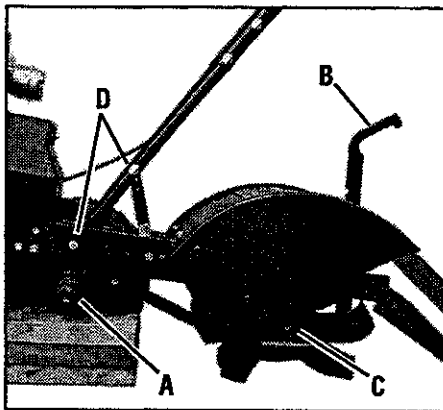

Figure 5-1
Proper lubrication of the tiller is an essential part of maintenance. After every 10 operating hours, oil or grease the lubrication points shown in Figures 5-1 and 5-1A and described below.
- Remove wheels, clean wheel shaft (A, Fig. 5-1) and apply light coating of grease to shaft.
- Grease back, front and sides of Depth Regulator Lever (B, Fig. 5-1).
- Remove tines, clean tine shafts (C, Fig. 5-1) and apply light coating of grease to shaft.
- Oil the handlebar height adjustment screws and the handlebar attaching screws (D, Fig. 5-1).